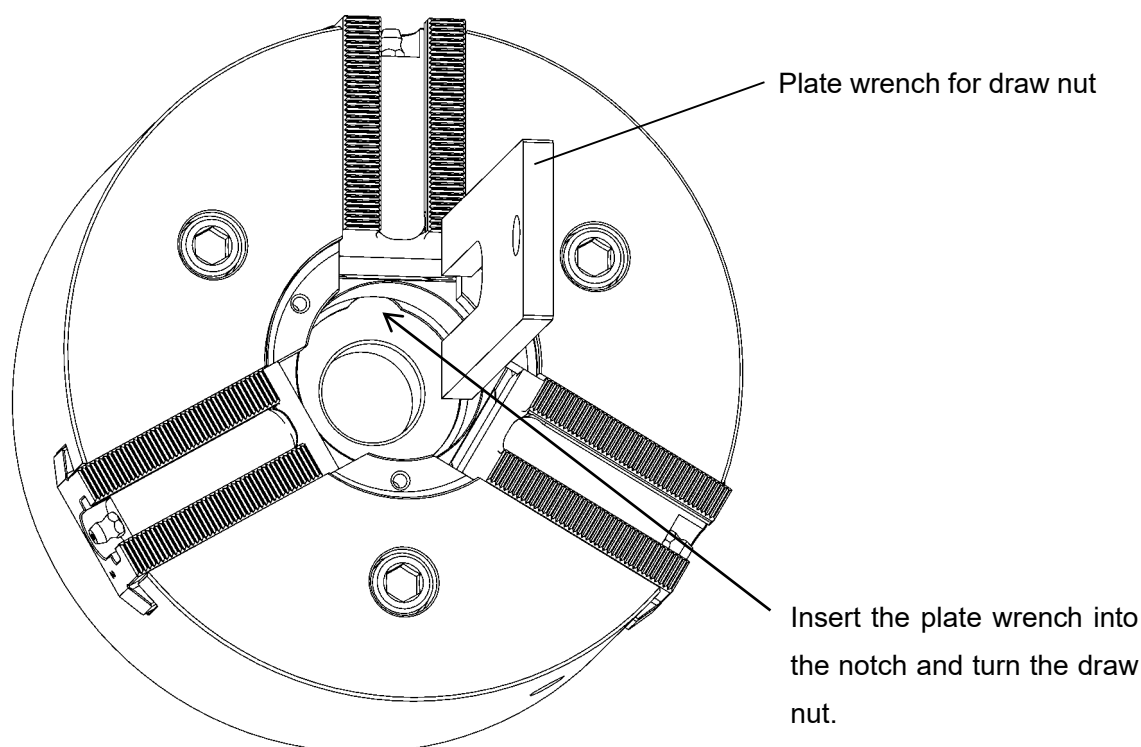

Figure 18
- ③ Install the cylinder on the spindle.
- ④ Check the run-out of the cylinder. If normal, connect the hydraulic hose and the drain hose.
- ⑤ Turn on the machine power, and operate the cylinder several times at 0.5 MPa. If it is normal, move the piston to the forward end and turn off the machine main power.
- ⑥ Remove the soft jaws and cover of the chuck.
- ⑦ Insert the draw nut plate wrench into the chuck center hole as shown in figure 18, and connect the draw nut to the draw pipe while rotating the draw nut. If it cannot be screwed in smoothly, do not screw forcibly and check the thread for inclination.
- ⑧ Rotate the draw nut until the chuck is completely fitted to the spindle installation surface.
- ⑨ Tighten the chuck mounting bolts evenly with the specified torque. (See “2.Important Safety Precautions”) The chuck circumference run-out must be 0.020 mm T.I.R or less. When performing centering adjustment, tap the body side face with a plastic hammer.
- ⑩ Rotate the draw nut until the master jaw base line is aligned with the outer line of the stroke mark. (Refer to page 21.)
- ⑪ Operate the cylinder at 0.5 MPa and confirm that the master jaw base line moves within the full stroke range. (Refer to page 21.)
- ⑫ If the chuck or cylinder is replaced from another type, calculate and change the hydraulic pressure to obtain the same gripping force as the previous chuck. (Refer to “3.2. Calculation of Operating Condition”.)